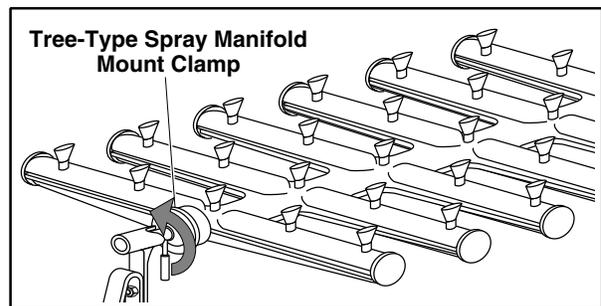

Figure 28: Tree-Type Spray Manifold Mounting Clamp Handle
- a. Rotate the Mounting Clamp handle counterclockwise to release the Spray Manifold (Figure 28).